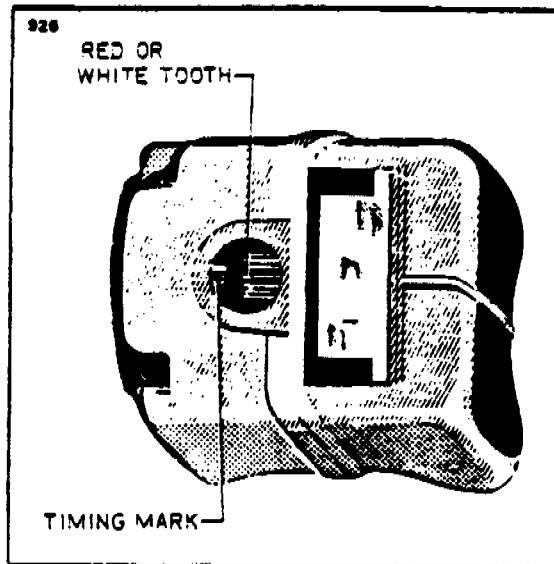

FIGURE 7-11. MAGNETO TIMING MARKS
- c. Rotate coupling from neutral, in a left hand direction 10° , appearing through timing hole. when the white or red tooth aligns with the white line of the distributor block, the magneto is set at "E" gap. (Refer to Figure 7-11.) Alignment may not vary over $+4^\circ$.